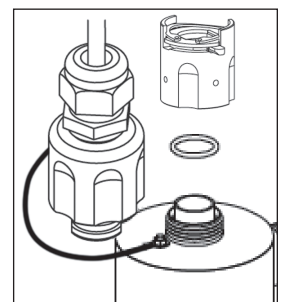
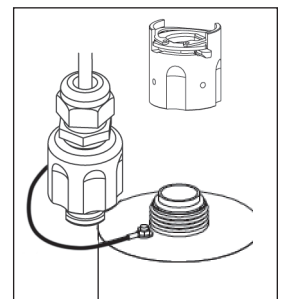

Figure 3C
Figure 3D
5. Clean the sleeve as outlined in above, or replace with a new sleeve. Reinstall the quartz sleeve in the reverse order. The UVSS reactor is designed for easy installation of the quartz sleeve by incorporating a unique sleeve centering guide. To install the sleeve, carefully insert the sleeve into the reactor chamber (do not drop) and push the sleeve until it firmly seats in the end of the reactor centered in the sleeve centering guides (Figure 3C). Install a lubricated (silicone release grease) o-ring (Part number 410866) onto the sleeve until it is positioned against the chamfered seat (Figure 3D).